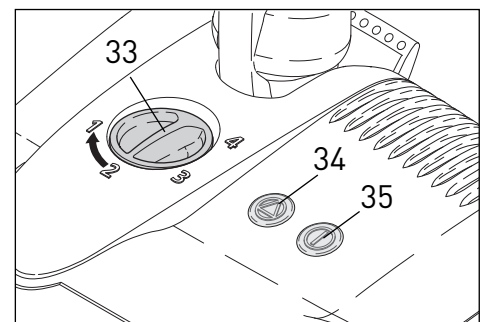

Figure 11
**NOTE:** the brush roller is off and stopped only when the machine is in an upright position and the handle is completely locked in place, or when the hose handle is removed from the side of the vacuum. If you have the machine at an angle, the brush roller will spin. Leaving the machine in a stationary position for an extended period of time while the brush roller is spinning may cause damage to your floor or carpet. You may also switch off the brush roller by pressing the on/off switch (#35, figure 11) on the top of the power head.
## Brush Obstruction Light & Auto Shut Off - Figure 11
## The Brush Height Adjustment Feature - Figure 11
## Indicator Lights - Figure 11
**Green and Amber Light:** (34 and 35, figure 11) The brush is not fully engaged in the carpet. The height adjustment should be lowered. If the height adjustment is at its lowest setting, the brush is worn and needs to be replaced.
**Green Light Only:** (35, figure 11) Brush is working well. We strongly recommend selecting a brush height that is only one level beneath that at which both the green and amber lights are on. For maximum cleaning performance, the brush height adjustment can be lowered to its lowest setting.
**Amber Light Only:** (34, figure 11) The brush is blocked. Turn off the machine, unplug it, and then remove the blockage.
To clean delicate or hard floor surfaces, the power head is equipped with an on/off switch (# 35, figure 11). When this switch is used to turn off the brush roller, the green indicator light is also turned off.